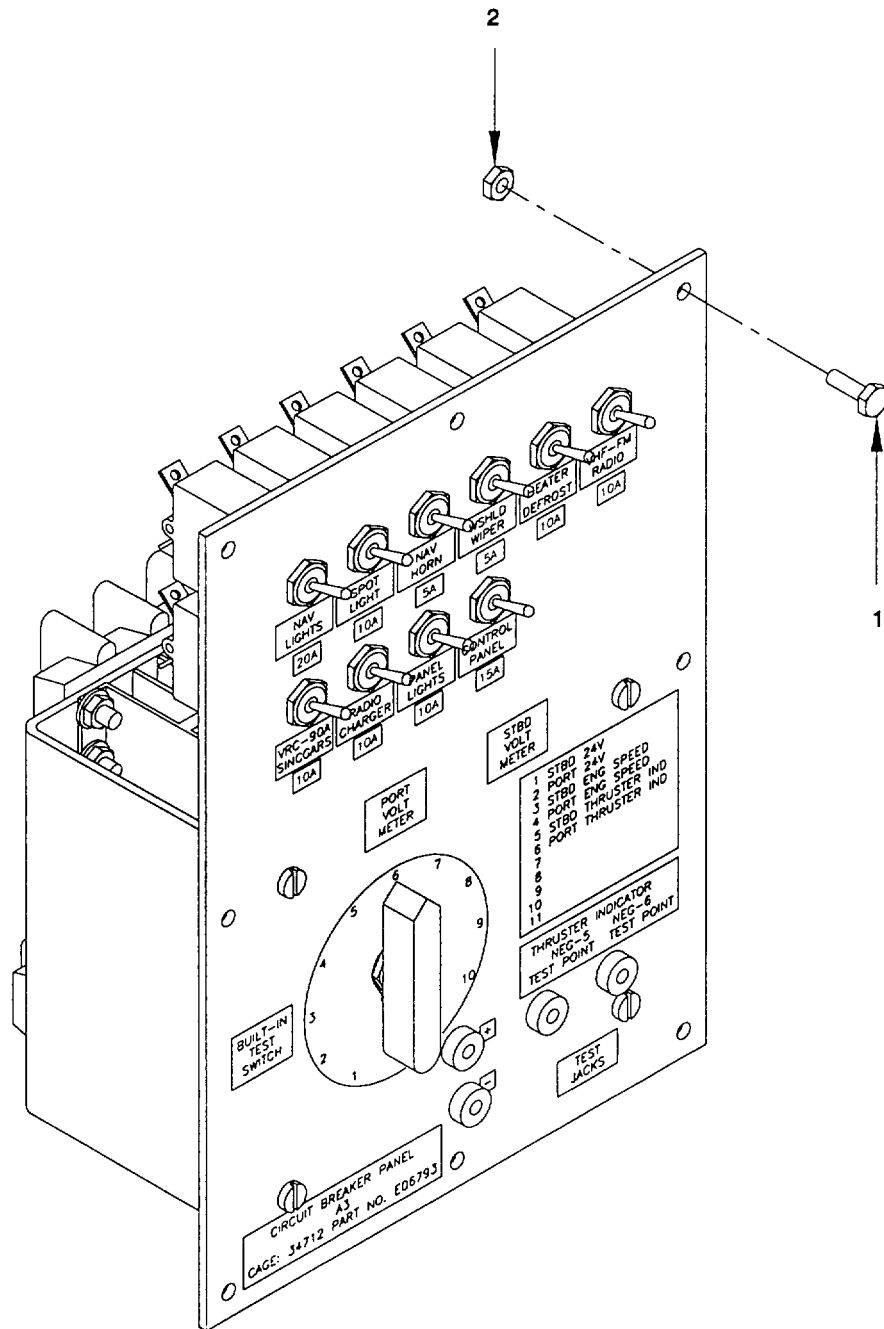

Figure 2-130. Operator Cab Circuit Breaker Panel "A3", Remove/Install.
a. *Remove.* (figure 2-130)
- (1) Remove eight pan head screws (1) and hex nuts (2) to remove the circuit breaker panel A3, being careful when pulling away from cab not to cut, chafe, stretch or bend excessively the wiring secured to the panel.
- (2) Disconnect all electrical wiring, tag each per wiring diagrams in Appendix G. and tag OUT OF SERVICE to prevent inadvertent operation.
b. *Install.* (figure 2-130)
- (1) Apply antiseize compound to pan head screws (1).
- (2) Reconnect electrical wiring, as tagged. Refer to Appendix G. Use tie wraps and mounting bases to secure any loose wiring.
- (3) Position circuit breaker panel on Operator's Cab and install eight pan head screws (1) and hex nuts (2).